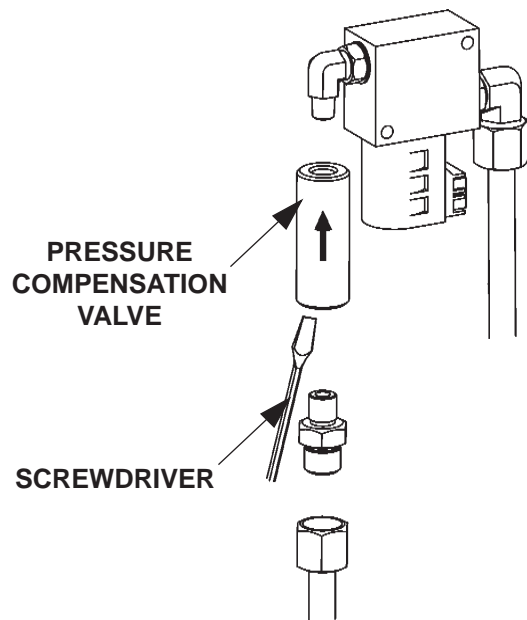

FIG. 51-2
8. Remove pressure compensation valve (**FIG. 51-2**) located at the top of each column. Check if the pressure compensation valves are contaminated. Disassemble, try to move plunger with small screwdriver, and then clean each valve as shown in **FIG. 51-2**. Reinstall or replace each valve if necessary.